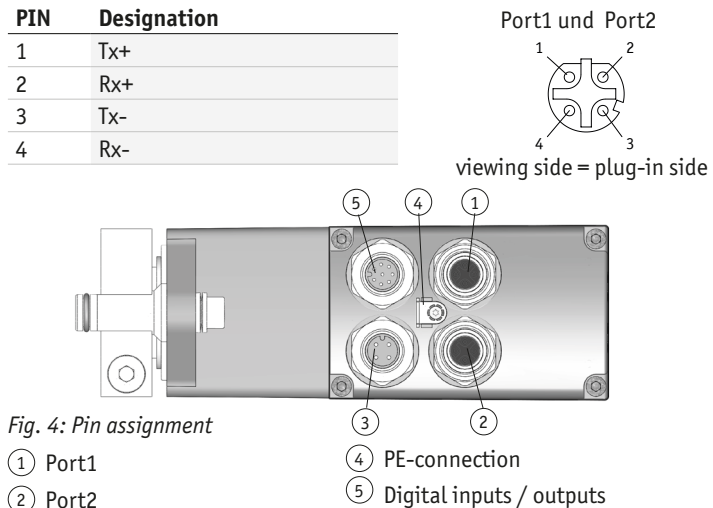

Fig. 4: Pin assignment
- ① Port1: socket 4-pole M12 D-coded (Fig. 4).
- ② Port2: socket 4-pole M12 D-coded (Fig. 4).
- ③ Operating voltage 4-pole pin M12 A-coded (Fig. 4).
- ⑤ Digital inputs / outputs 8-pole pin M12 A-coded (Fig. 4).
To protect the unit against interference, the shields of the signal lines and power cables must be connected on both sides. Potential differences result in inadmissible currents on the shield. Put the PE connection (4) between the plug connectors on the ground wire potential (Fig. 4). Use 6.3 mm flat connectors with a short strand 2.5... 4 mm² (not supplied). Fore multiple